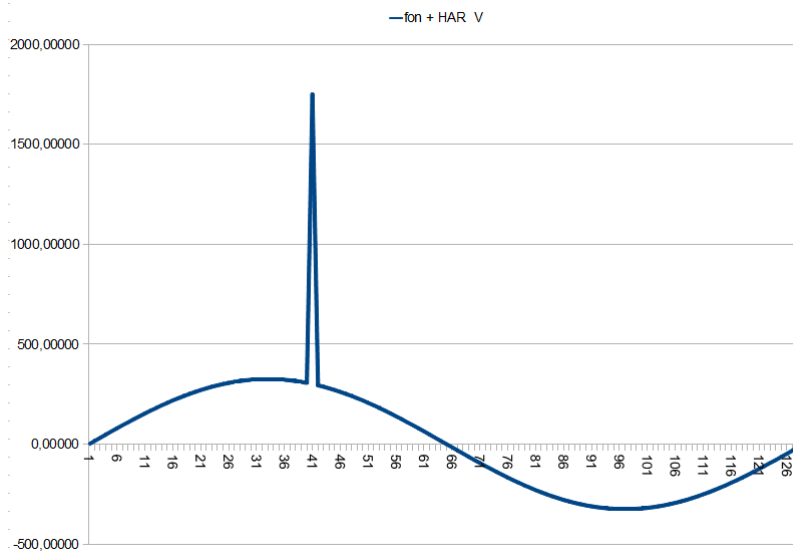

Figure 30: Transients detected with a distortion coefficient of 90.0.
**Figure 30** shows the disturbances detected when configuring a distortion coefficient of **90.0**